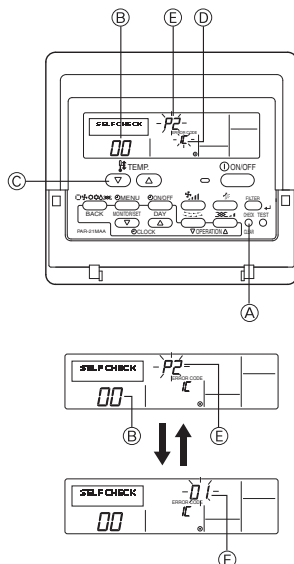

Fig. 7-2
7.3. Self-check (Fig. 7-2)
- Press the [CHECK] button (A) twice.
- Set refrigerant address with [TEMP.] button (C) if system control is used.